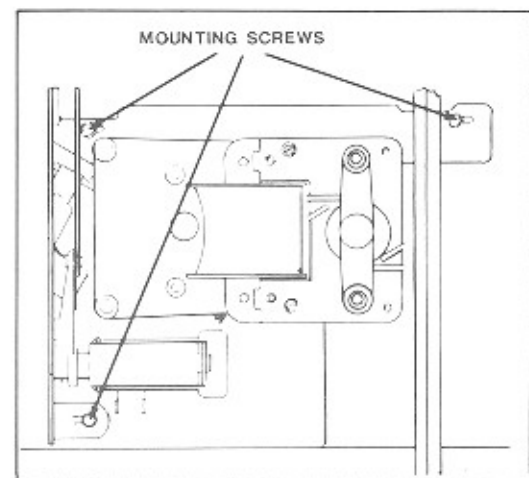

Figure 6-10. Sprag Assembly Removal
1. To remove sprag assembly, disconnect wires to the solenoid and motor, remove the three mounting screws and slide the assembly out of the right side of the mechanism (see figure 6-10).